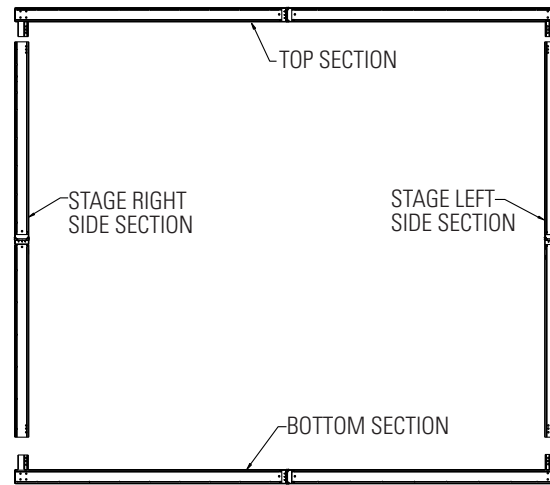

FIGURE 1
1. Unfold the 4 sections of Heavy Duty Fast-Fold® Deluxe frame, lock all latches and lay face up on the floor. See figure 1.